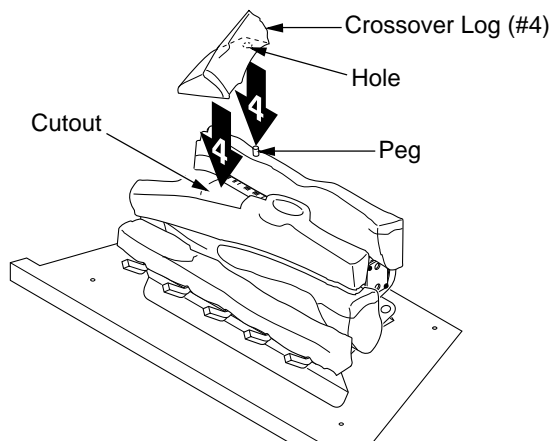

Figure 26 - Installing Crossover Log (#4)
4. Place the crossover log (#4) on the rear log and the middle log. Make sure the peg on the rear log is in the hole in the bottom of the crossover log. The crossover log should fit in the cutout of the middle log (see Figure 26).